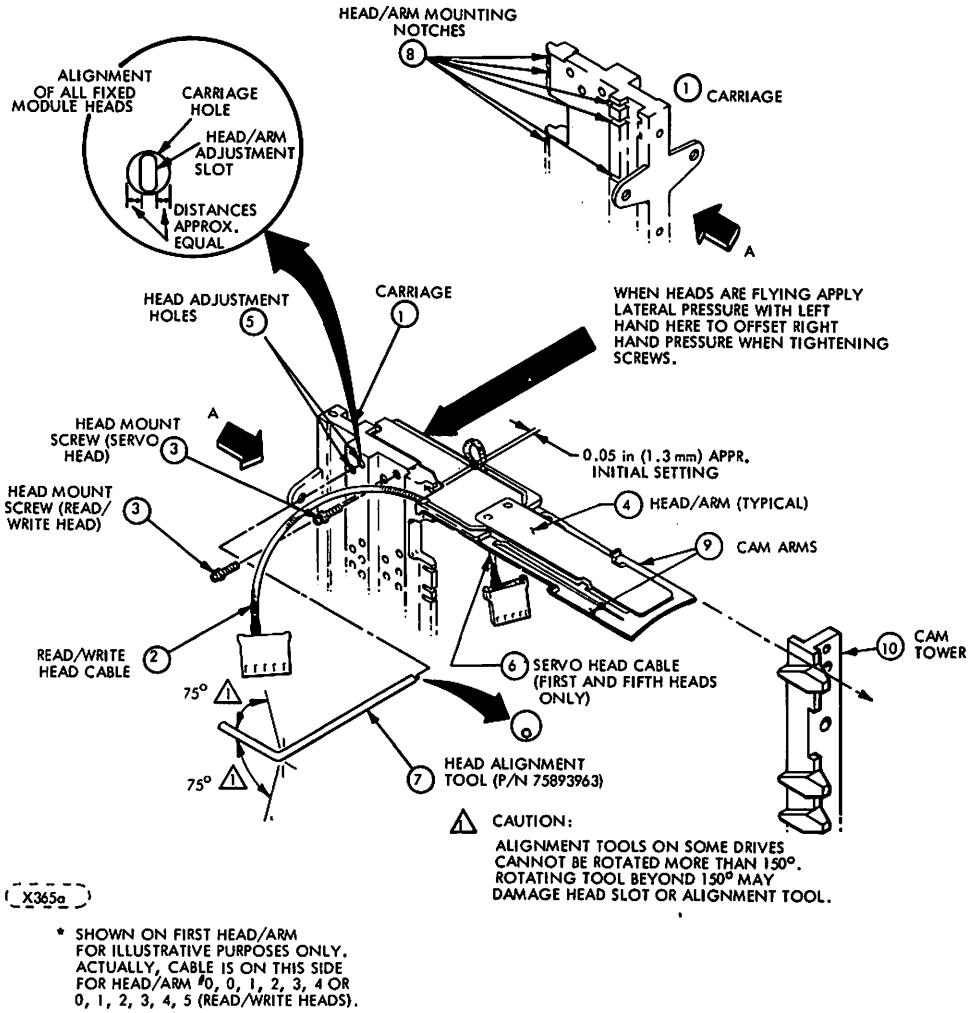
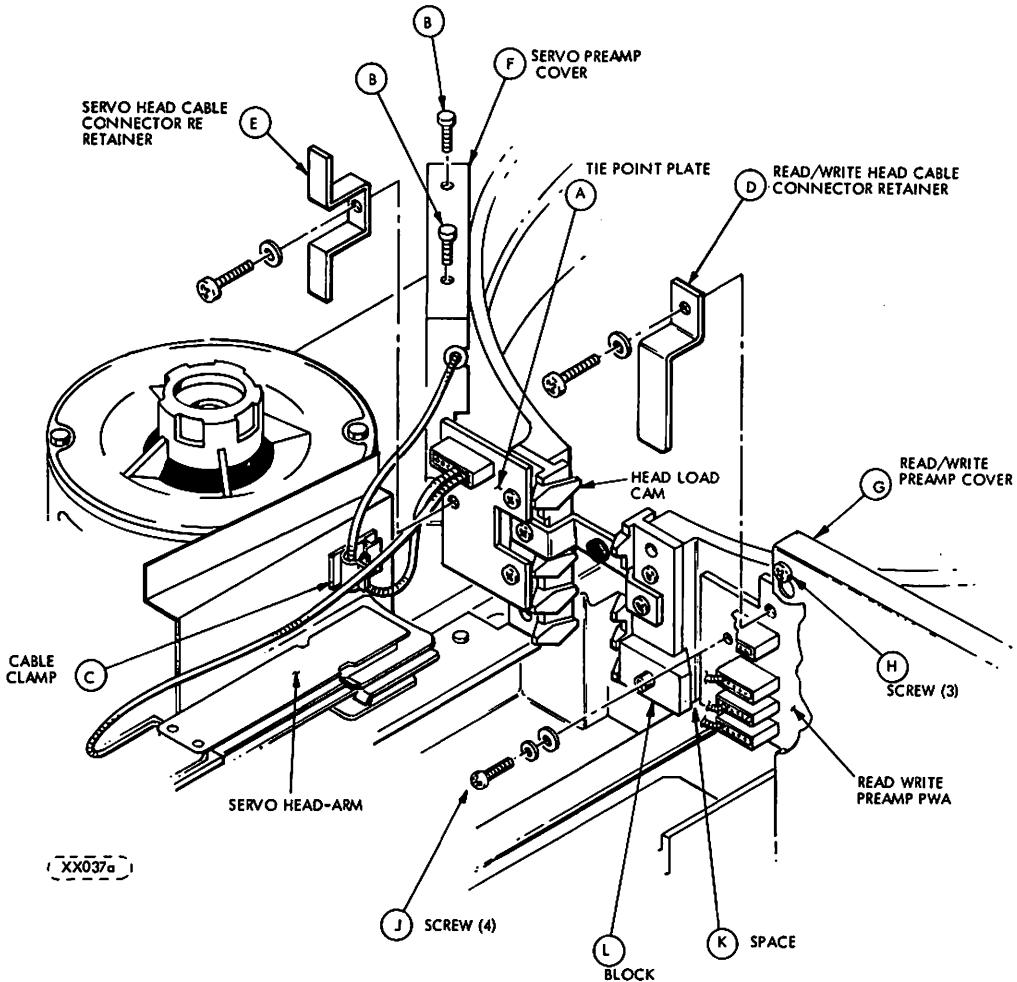

FIGURE 6-10. HEAD/ARM REMOVAL AND REPLACEMENT AND ALIGNMENT
FIGURE 6-11. SERVO HEAD/ARM ASSEMBLY
Perform the following procedure to remove and replace the heads. Refer to Figure 6-10.
5. Remove the head connector retainer (D) in Figure 6-11.
6. Unplug the head cable (2) of the head to be removed.
7. Remove the screw (3) (Figure 6-10) which secures the head to be removed using a 3/32 inch Ball Allen screwdriver. Hold the head arm with one hand while removing the screw because the arm easily slips out of its mounting grooves and it could fall and damage the head. Do not drop the screw or flat washer as it may be drawn into the magnet assembly area.
8. While holding the head with the head cam arm (9) supported by the cam tower (10), very carefully move it slightly clockwise and forward into the disk area until the head/arm is clear of the carriage (1) and the cable (2) clears the carriage. Move the head/arm (4) to the spindle motor side of the carriage and then to the rear, up and out of the unit.
- a. From the spindle motor side, slide the head connector and cable (2) through the vacant head/arm slot. Be careful not to let the connector slide across the head of an adjacent head/arm.
- b. With the head cam arm (9) supported by the cam tower (10), move the head/arm toward the carriage until the head/arm is seated in the two notches (8) in the carriage (1) (see Figure 6-10).
- c. Using a 3/32 inch Ball Allen screwdriver install the screw (3) which secures the head/arm to the carriage. Retain a hold on the head/arm until the screw is in far enough to prevent the head/arm from coming out of the notches (8) in the carriage. Do not completely tighten the screw at this point in the installation. Torque to 4 1/2 lbf-in (0.40 to 0.51 Nm).
- 10. Replace the head connector retainer (D) in Figure 6-11).
- 7. Remove the two screws (B) which secure the cover to the Servo Preamp Assembly (Figure 6-11).
- 9. Remove the head cable from the cable clamp (C).
- 10. Remove the head connector retainer (E).
- 11. Disconnect the Servo Head/Arm Cable connectors from the tie point plate (A) and the Servo Preamp PWA.
- 14. Replace the Servo Preamp cover. Replace two screws (B). Insert head cables into cable clamps (C).
- 15. Replace the head connector retainer (E).